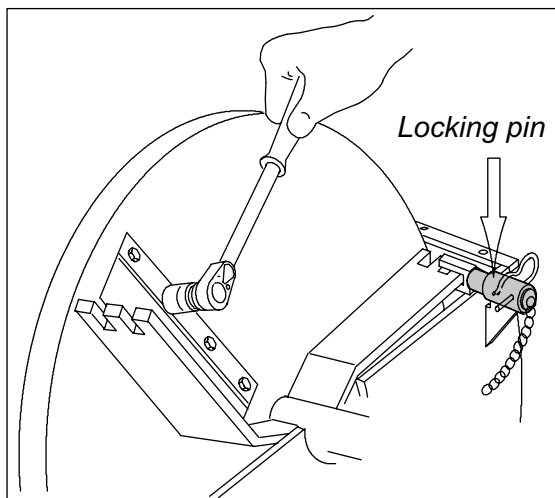

Fig. 18. Locking the disk and removing the lock nuts
- Remove the upper chamber (A) securing bolts (M6) (B) and fastening bolts (M12) (C). Turn the upper chamber to the side.
- To remove the upper chamber, remove the securing bolt (M6) (D) and hinge bolt (M12) (E).
- Lock the disk with the lock bolt Fig. 18.
1. Remove the knife lock nuts (M10). Fig. 18.